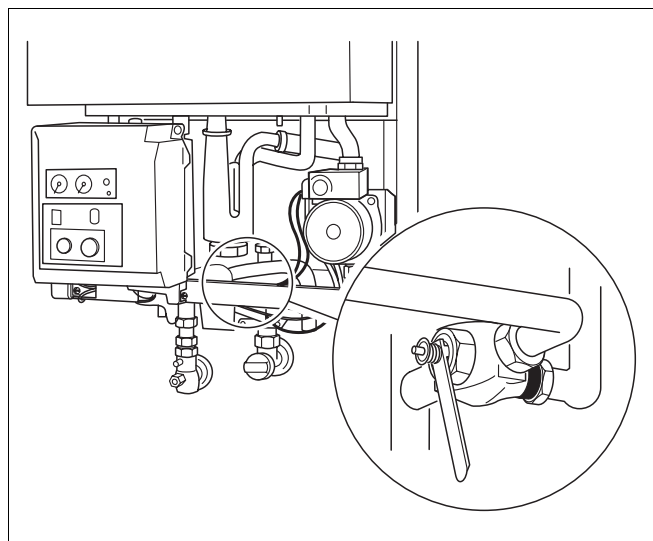

Fig. 83 600 - 11S / 19S / 24S / 24C:
- Remove the control valve with a spanner and fit a new unit (fig. 83).